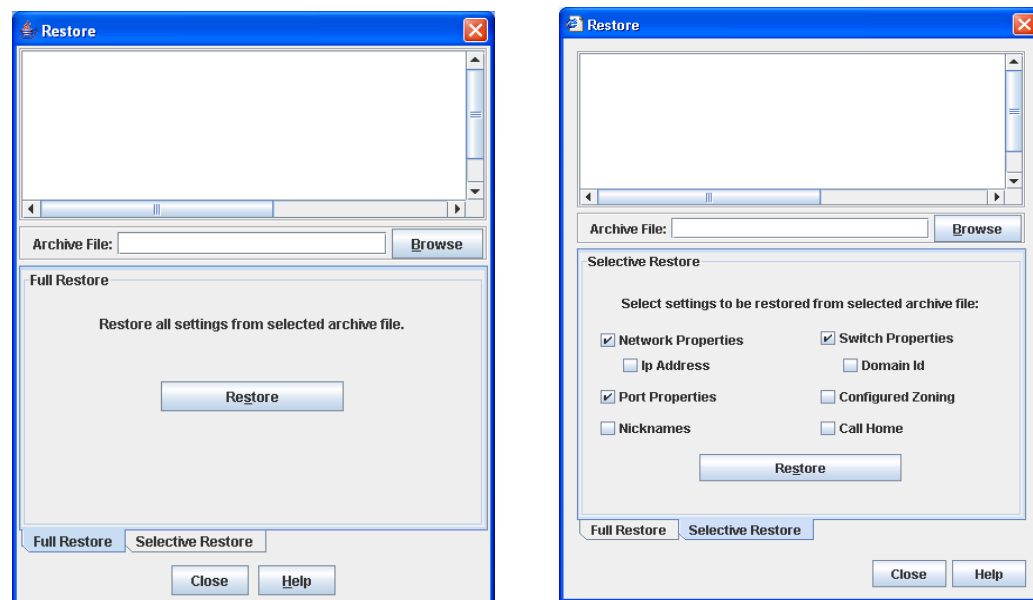

Figure 4-12. Restore Dialogs – Full and Selective
2. Open the Switch menu and select **Restore** to open the Restore dialog shown in Figure 4-12. The Restore dialog offers a **Full Restore** and a **Selective Restore** tab.